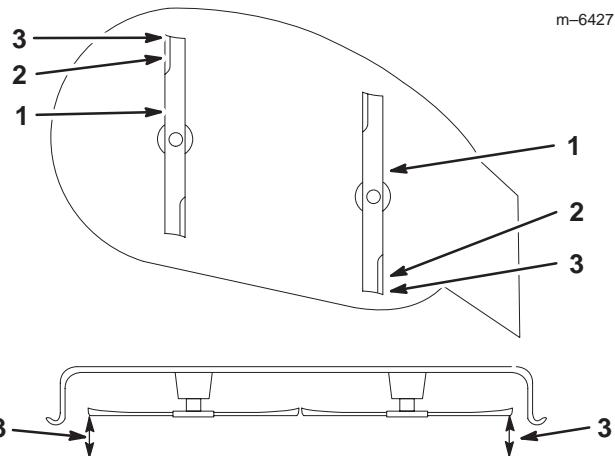

Figure 42
- Set the height-of-cut at position **D** [3 inch (76 mm)] and carefully rotate the blades so they are facing front to rear (Fig. 42).
- Measure from the tip of the front blade to the flat surface and the tip of the rear blade to the flat surface (Fig. 42). If the front blade tip is not 1/16–5/16 inch (1.6–7.9 mm) lower than the rear blade tip, adjust the front locknuts.